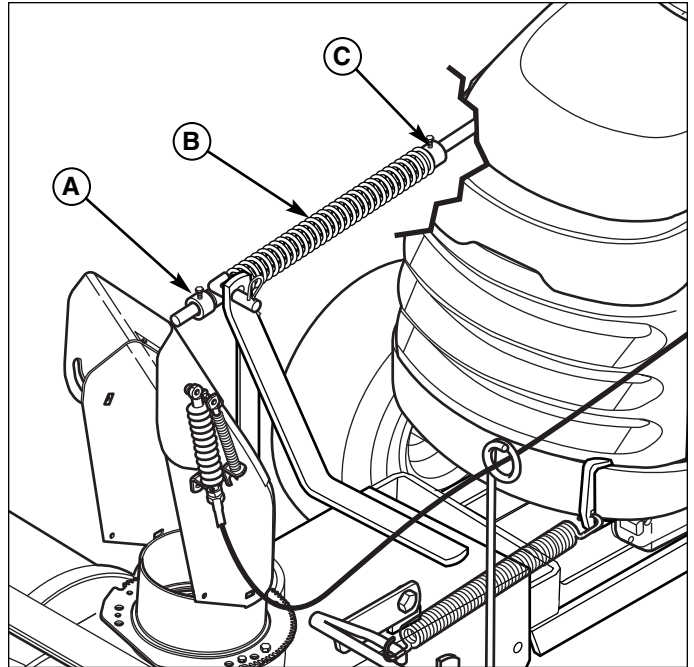

Figure 7. Adjusting Lift Rod
2. Lower the snowthrower and adjust the front set collar (A, Figure 7) to achieve the correct lift height.
2. Release the rear set collar (C, Figure 7).
3. Slide the set collar (C) forward until it is slightly compressing the spring. Tighten the set collar screw. Do not over-compress the lift rod spring.